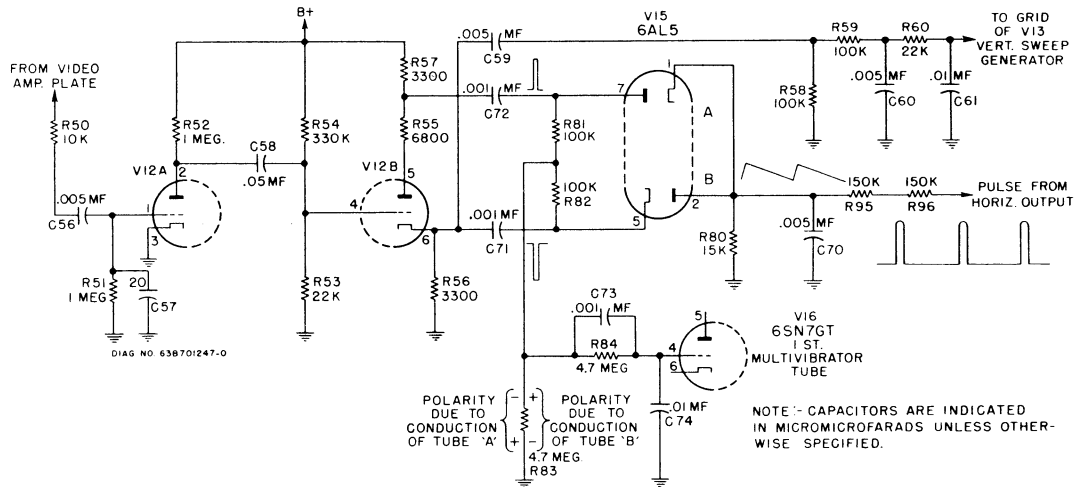
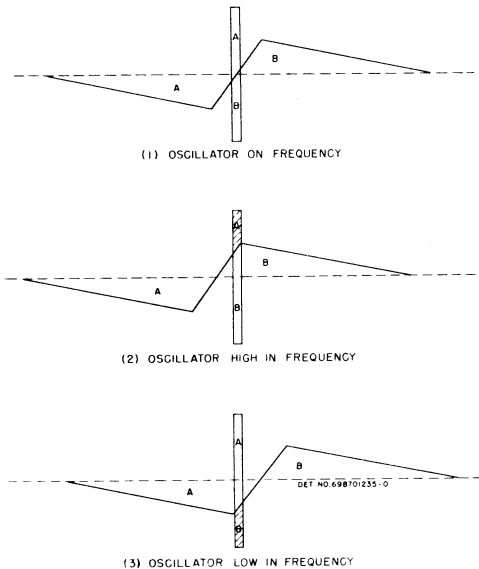

FIGURE 18. SIMPLIFIED SCHEMATIC OF CLIPPERS AND PHASE DETECTOR
FIGURE 21. WAVEFORMS AT PHASE DETECTOR
is shown in Figure 18. The composite video signal with positive going sync is applied thru R-50 (10K) and C-56 (.005) to the grid of the first clipper from the plate circuit of the video amplifier. Under no signal conditions, the tube is unbiased. The positive signal, however, will cause the tube to draw grid current and the voltage drop across R-51 (1 meg), negative at the grid, will charge C-56 to such a value that only the most positive part of the signal, which is the sync pulse, will cause plate current to flow. Therefore, the video information and the blanking pulses are clipped off and only the sync pulses, now negative in polarity, appear in the plate circuit. The second clipper is so biased that the peaks of the sync pulses will drive the tube to cut-off, which results in squared pulses of positive polarity in the plate circuit and of negative polarity in the cathode circuit of this tube. A slight increase in sync pulse amplitude is obtained by a small positive voltage applied to the grid of the second clipper by R-54 (330K).
Figure 18 is a simplified schematic of the clipper and phase detector circuits. The phase detector V-15 (6AL5) is so connected that a comparison of the phase of the incoming sync pulses and a sawtooth derived from the horizontal output system is made. A positive sync pulse from the plate of the 2nd clipper V-12 (6SN7) is fed thru C-72 (.001) to the plate of diode "A" of V-15. A negative sync pulse from the cathode of V-12 is applied thru C-71 (.001) to the cathode of diode "B" of V-15. A sawtooth, derived from the integration of a pulse in the horizontal output circuit, at the yoke, by the integrating network, composed of R-95 (150K), R-96 (150K), and C-70 (.005) is applied to the cathode of diode "A" and the plate of diode "B", which are tied together and returned to chassis thru R-80 (15K). The load for diodes "A" and "B" consists of resistors R-81 (100K) and R-82 (100K) whose junction returns to the high side of the grid resistor R-83 of the first horizontal multivibrator tube V-16 (6SN7). The voltage applied to the two diodes will be a function of the amplitude of the sawtooth, the amplitude of the sync pulses and the phase relationship between the pulses and the sawtooth.
in the center of the retrace time. See Figure 21(1). The sync pulses have an amplitude of from 6 to 8 volts while the sawtooth amplitude is about two volts. The RC time constant in the pulse input circuit to the diodes is long enough to maintain an average pulse voltage of 6 to 8 volts for two or three horizontal lines, which means that in the "on frequency" condition shown in Figure 21(1), the diodes conduct only on the pulses and since these are equal in amplitude and develop voltages of opposite polarity across R-83 in the first multivibrator grid circuit as shown in Figure 18, no control voltage is applied to the grid of V-16.
If the oscillator tends to increase in frequency, with respect to the sync pulses, the phase relationship shown in Figure 21(2) exists at the diodes. The phase of the sawtooth has now shifted so that at the same instant that the pulse is applied to the plate of diode "A" the positive saw is also applied to its cathode, so that only the shaded portion of the pulse causes conduction of diode "A". Diode "B", however, still conducts on the total amplitude of the negative pulse applied to its plate at the same time. Since current flow thru diode "A" makes the grid end of R-83 negative, with respect to chassis, the decreased current flow caused by the sawtooth voltage bucking the pulse voltage at diode "A" results in a more positive voltage across R-83 applying a more positive voltage to the grid of V-16 which, as we have seen, results in decreasing the oscillator's frequency.
If the oscillator tends to decrease in frequency, with respect to the sync pulses, the phase relationship shown in Figure 21(3) exists at the diodes. At the same instant that the negative pulse is applied to the cathode of diode "B", the negative saw is applied to its plate so that only the shaded portion of the pulse causes conduction. Diode "A", however, conducts on the full amplitude of the positive pulse applied to its plate aided by the negative saw applied to its cathode at the same time. Since current flow thru diode "B" makes the grid end of R-83 positive, with respect to chassis, the decreased current thru diode "B" results in applying a more negative voltage to the grid of V-16 which, as we have seen, results in increasing the oscillator frequency. C-73, R-84 and C-74 provide two time constant filters which are necessary to obtain "fly-wheel" action of this AFC sync circuit.